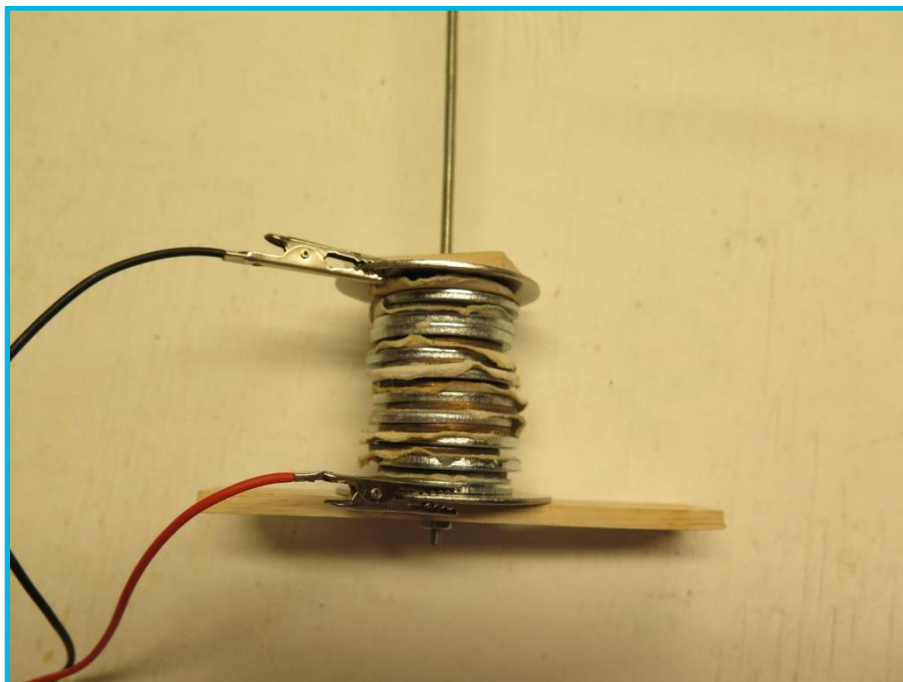

Figure 7
12. The finished assembly is shown in Figures 7 & 8. When fresh this gave about 2 Volts, or 0.2 Volts/pair (Cell). However, this declined after only a few hours to 1 Volt or less. This was because the zinc coating on the steel washers was so thin, it was soon eaten away by the chemical reaction. In Volta's day, his zinc discs were solid zinc and copper. His pile had 15 pairs and apparently gave 0.75 Volts/pair. Modern flashlight batteries give 1.5 V and automobile "Lead-Acid" batteries give 2 Volts/cell.